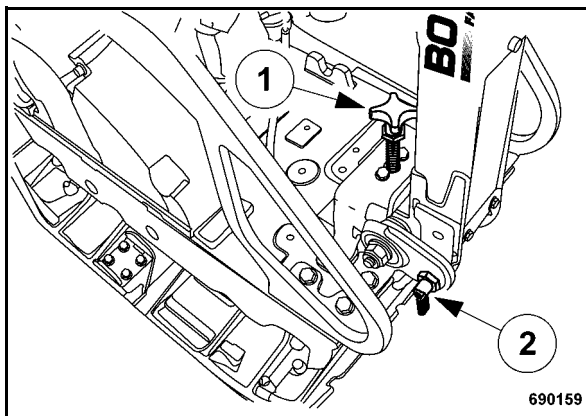

Fig. 14
- Pull out and turn the locking bolt (2) (Fig. 14).
- Adjust the steering rod with the height adjustment (1) to the height of your body.